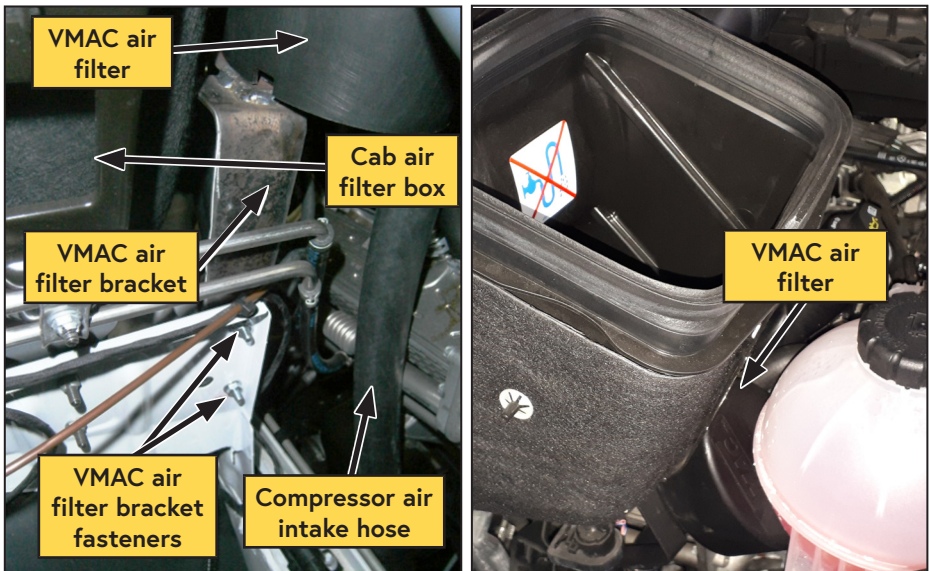

**Figure 16 — Install compressor shield**
- Apply Loctite 242 (blue) to the 3 supplied fasteners and install the debris shield onto the compressor (Figure 16).